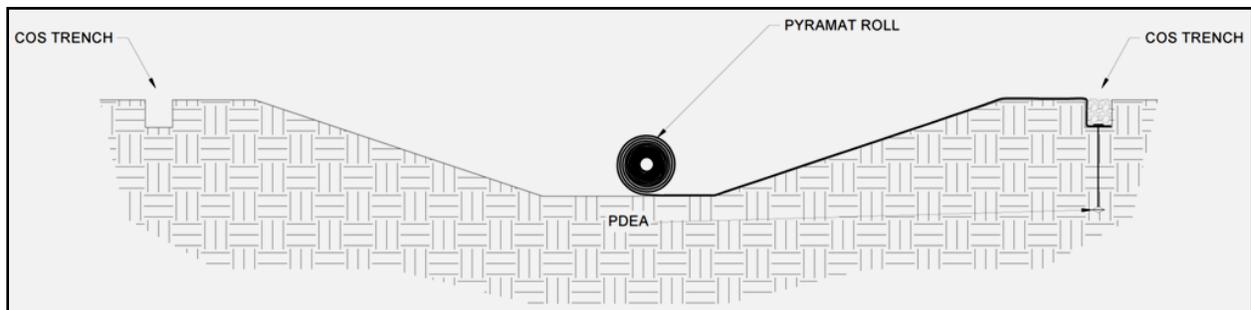

Figure 19: Perpendicular Placement of Pyramat across Channel
- Unroll the Pyramat roll on the channel surface in the area to be armored. (Figure 19) Ensure that Pyramat has intimate contact with the ground and all irregular surfaces beneath Pyramat are removed.